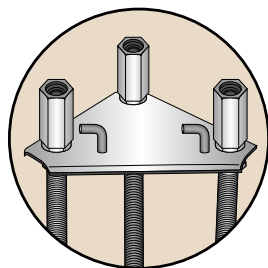
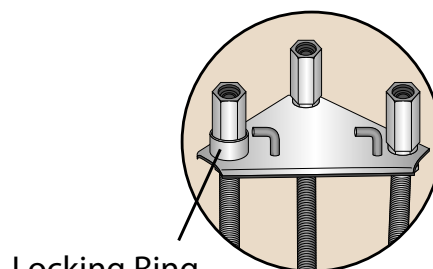

Fig 2,
Fig 3,
2. Connect the 3 long nuts as shown. (See Fig 2). Place the flagstaff locking ring over the long nut next to the flagstaff hinge lug as shown (See Fig 3)
7. Using a 7mm drill bit, drill the pole through the two holes in the Rotating arm joint, through the pole to the other side. (See Fig 2)
8. Insert the bolt with a washer and then a washer and nut on the other side. (See Fig 3) Tighten until the bolt is through the nylock. ***(The unit can be used without bolting but we advise for safety reasons to do this, if you choose not to bolt the joint on then all liability is yours in the event of the unit becoming detached from the pole in windy conditions.)***